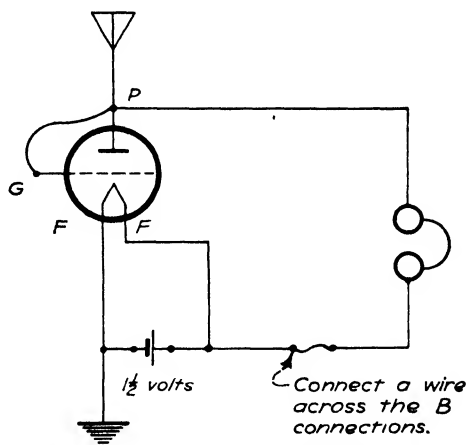

FIG. 120. This is the schematic circuit for the diode detector.
Step 2. Connect the antenna to the plate of the tube and the ground to the filament (see Fig. 120).